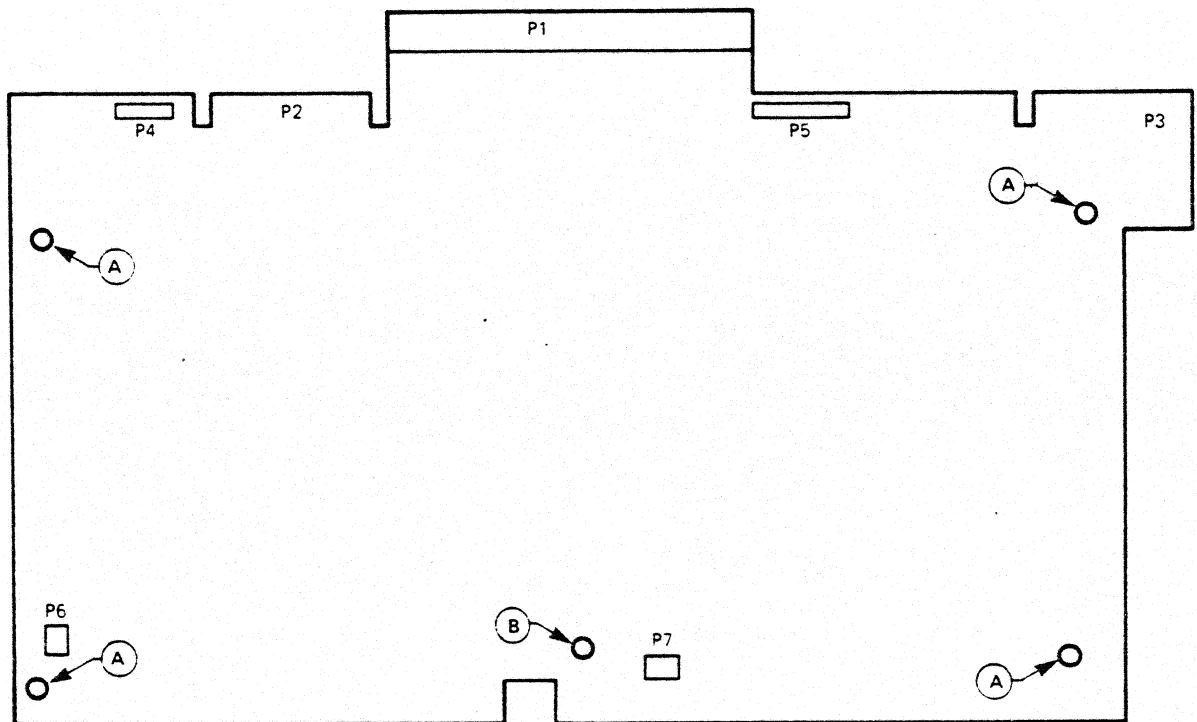

Figure 5-7. Disk Controller PCA Removal/Replacement
5. Remove the 5 screws holding the Disk Controller PCA in place. Refer to figure 5-7.